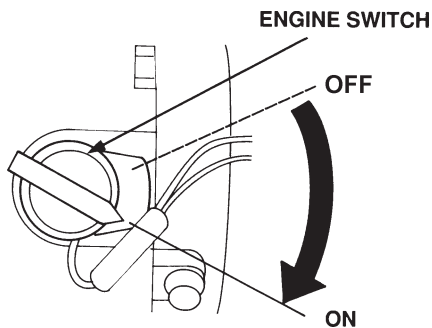

Figure 14. Engine ON/OFF Switch
- Turn the engine switch (Figure 14) to the **ON** position.